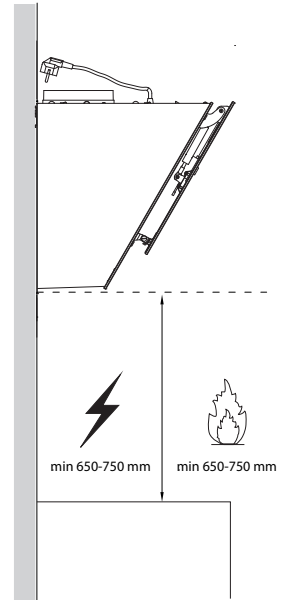

Fig. 3
2. Mark the required installation height (650 mm for electric and 650 mm for gas cooking plates) on the wall behind the cooker or the cooking plate (Fig. 3).